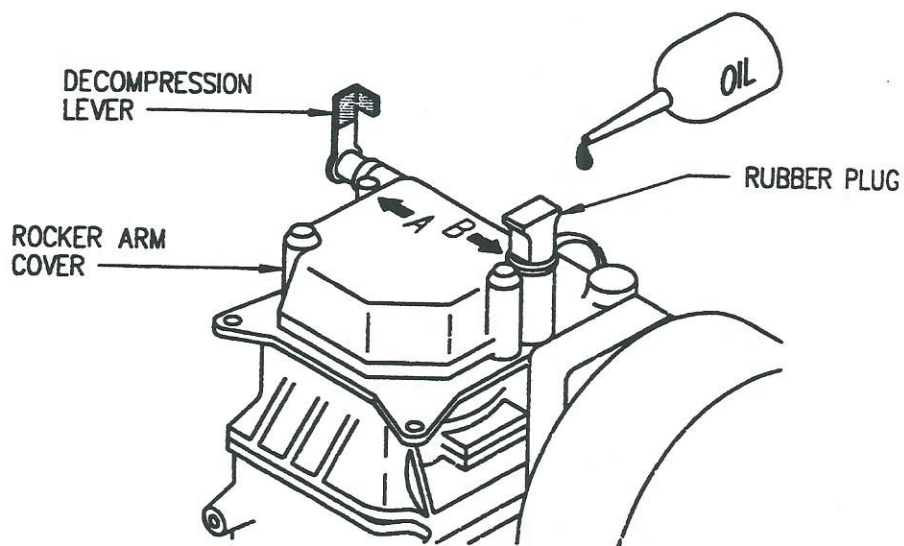

Figure 33 Adding Oil – Cylinder Head Plunger
10. Remove rubber plug "B" in cylinder head cover and add 2 ml ( $\frac{1}{4}$  to  $\frac{1}{2}$  teaspoon) of clean engine oil, MIL-L2104, 15W40. Install rubber plug. (Figure 33)